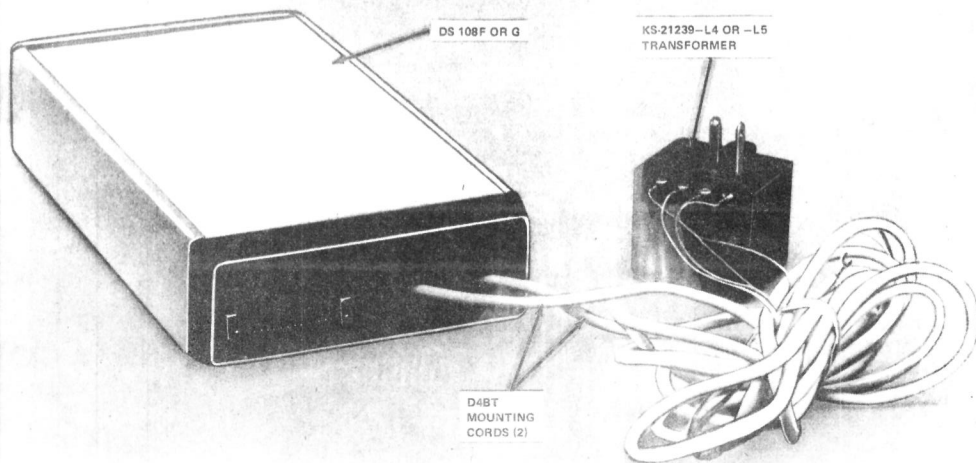

Fig. 5—DS 108F or G Rear View
**2.04** The data set is equipped with a 25-pin customer interface connector to provide EIA interface to either CPE or DAS 830-type (Fig. 5). Telephone line interface is provided by locally furnished D4BT mounting cord (either 2- or 4-wire lines). A locally furnished D4BT mounting cord must also be provided between power transformer KS-21239-L4 or -L5 and each data set. Terminals are also provided for remote test switch connection.